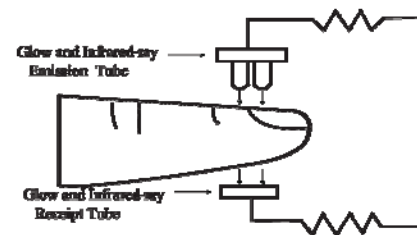

Figure 1 Operating principle
- b. The finger should be placed properly (see the attached illustration of this manual, Figure 1), or else it may cause